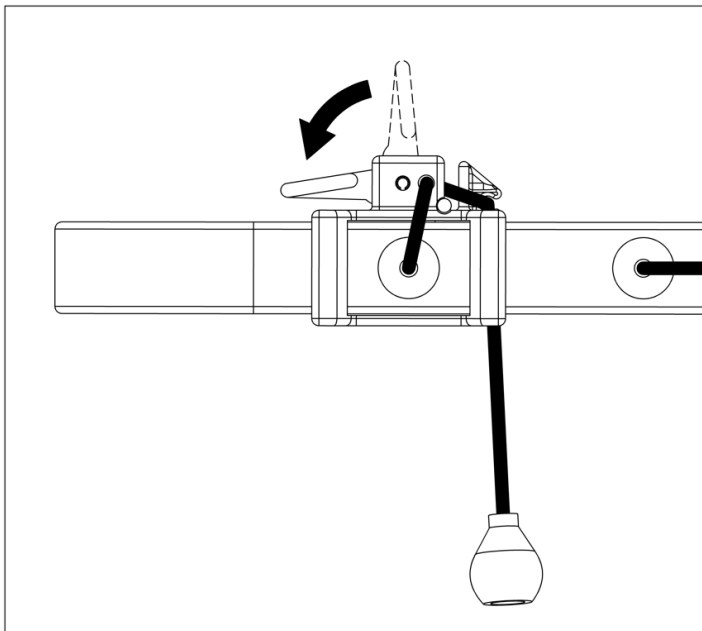

Fig 2. Pull cord tight, feed through hole in L.T.L. and lock down lever.
9. Tie off the cord and lock the L.T.L. (Figs 2 & 3)
10. Tie off the cord and lock the L.T.L. (Figs 2 and 3)